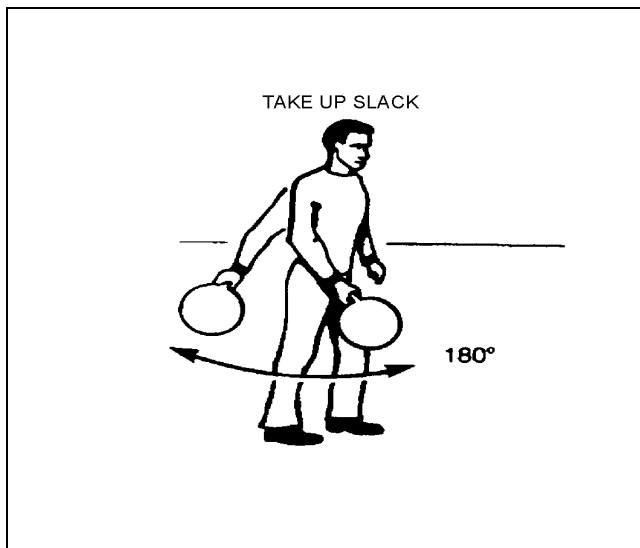

Figure 2-4-1 "Take Up Slack" Signal
- g. **"Take up Slack"**. The glider pilot issues this command to the wing person/hook-up person verbally and by showing the left hand thumb and forefinger. The wing person/hook-up person then proceeds to hand signal the tow aircraft signaller to have the tow pilot slowly commence taking up the slack in the rope. The signal consists of movement of the arm in front of the body in a sweeping motion of 180 degree arc below the waist (see Figure 2-4-1).